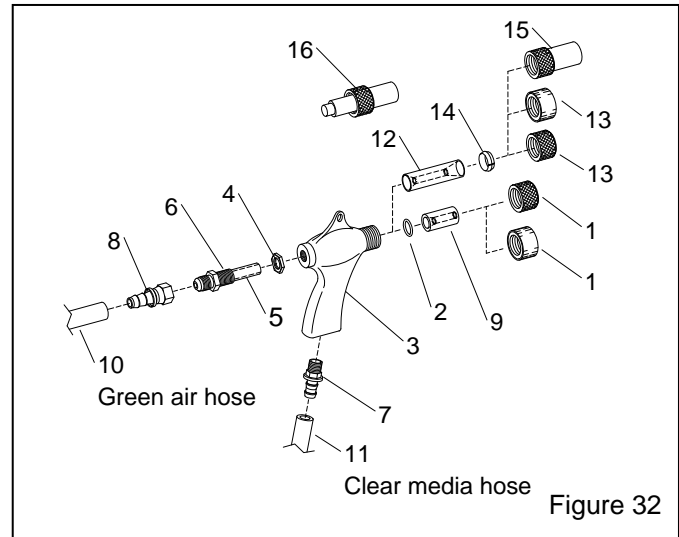

Figure 32
9.3 BNP Gun and Feed Assembly, Figure 32